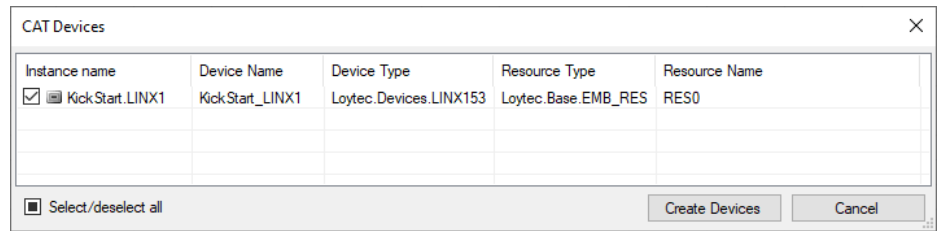

Figure 63: Select devices to be created.
21. In the list, select all devices that apply and click **Create Devices** (see Figure 63).